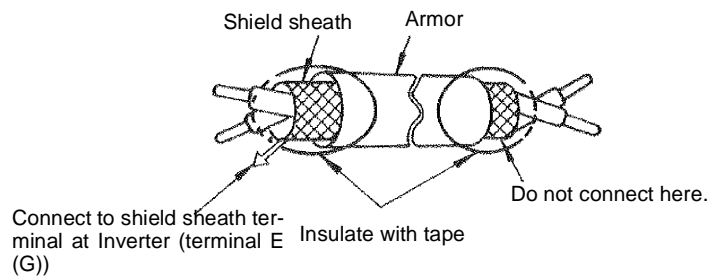

Fig 2.26 Processing the Ends of Twisted-pair Cables
- Use twisted-pair or shielded twisted-pair cables for control circuits to prevent operating faults. Process cable ends as shown in *Fig 2.26*.
- Connect the shield wire to terminal E (G).